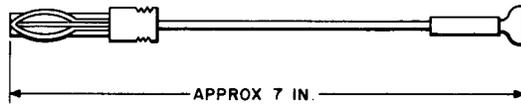

Fig. 13—729A Test Probe Tool
2.13 729A: The 729A test probe tool (Fig. 13) is a faceplate type which consists of 22 gauge stranded vinyl insulated wire equipped at one end with a special test point intended for insertion into a faceplate test point location in the No. 1 Electronic Switching System (ESS). The other end is equipped with an adapter intended for direct connection to an oscilloscope.